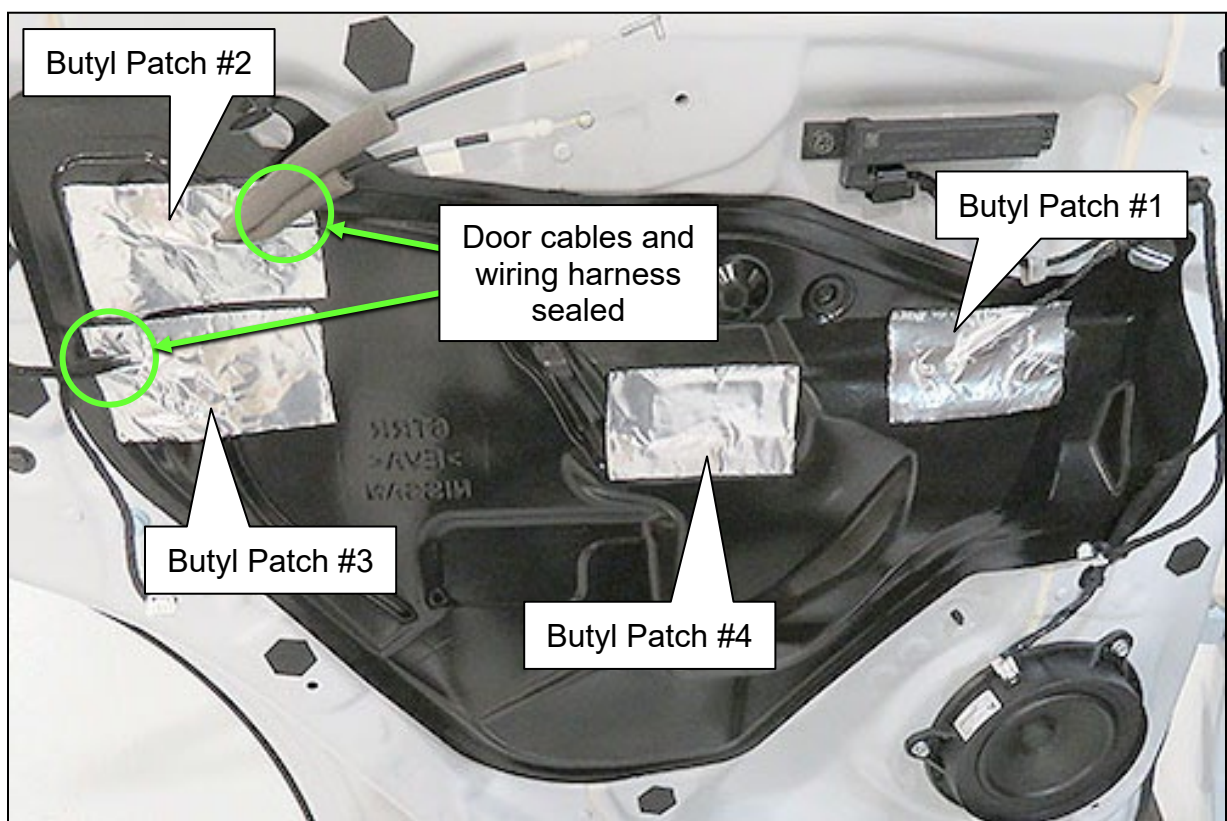

Figure 36
- This patch will be Butyl Patch #2. Placement is shown in Figure 36 on page 18.
- This patch will be Butyl Patch #3. Placement is shown in Figure 36 on page 18.
47. Peel the tan protective cover (Figure 5 on page 3) away from the adhesive of Butyl Patch #2, and then carefully apply it to the door seal surface, as shown in Figure 36.
48. Peel the tan protective cover away from the adhesive of Butyl Patch #3, and then carefully apply it to the door seal surface, as shown in Figure 36.
49. Peel the tan protective cover away from the adhesive of Butyl Patch #1, and then carefully apply it to the door seal surface, as shown in Figure 36.
50. Peel the tan protective cover away from the adhesive of Butyl Patch #4, and then carefully apply it to the door seal surface, as shown in Figure 36.